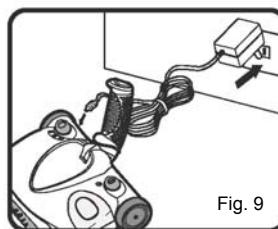

Fig. 9
1. Connect the charger plug to the charging jack or hole on the back of the sweeper. Plug the the charging adapter into the wall outlet. (120V., 60Hz.) Use only TechWorld Charger AD-1215-U8. (Fig. 9)